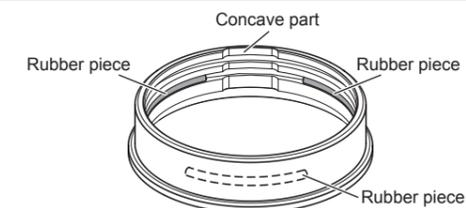

Fig.4
- Insert three of the rubber pieces supplied with this product into the groove for a Nikon mount lens inside the gear, providing ample space between the pieces as shown in Fig.4**